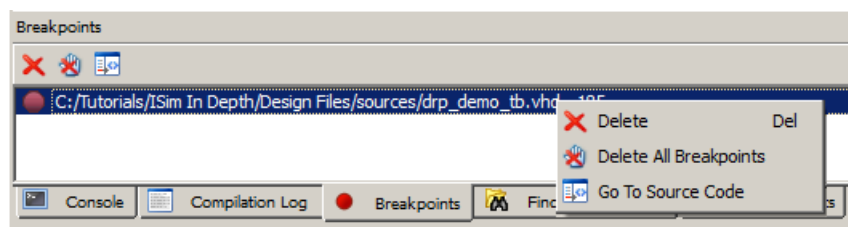

Figure 3-36: Breakpoints Panel and Right-Click Menu Options
- Go to the line of source code for a selected breakpoint, see Figure 3-36.